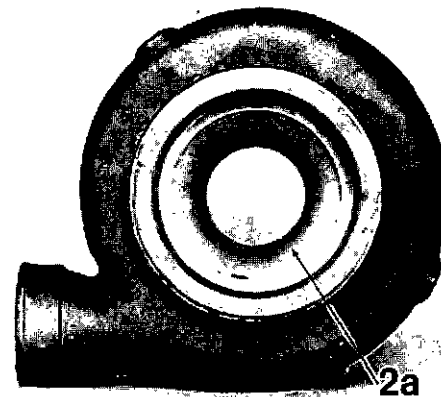

Fig. 4-14, (T465066). Inspect the compressor housing
2. Compressor Housing (16), Fig. 4-14.